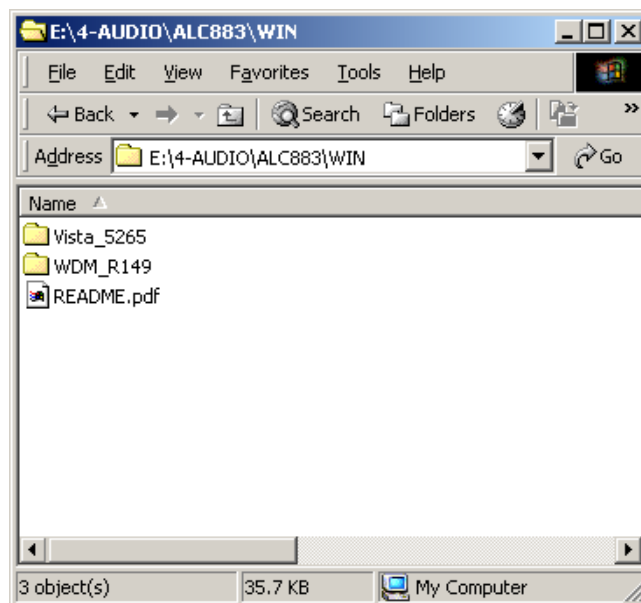

Figure 7-44: Select the OS Version
Step 5: Double-click the appropriate operating system version folder (Figure 7-44).